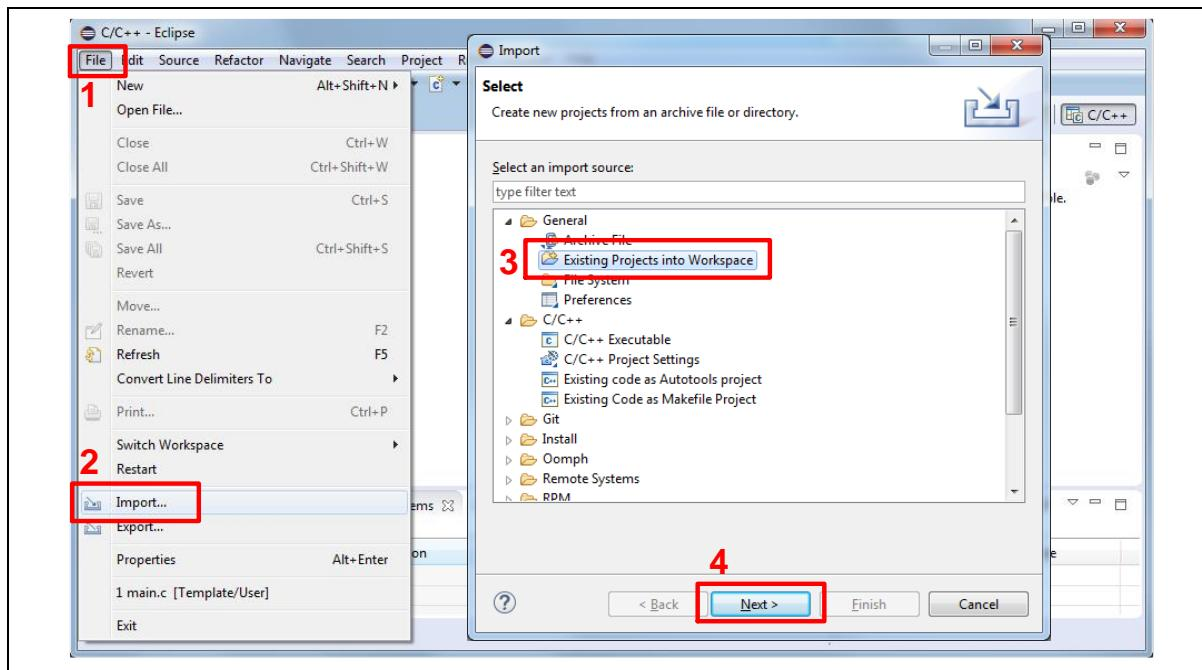
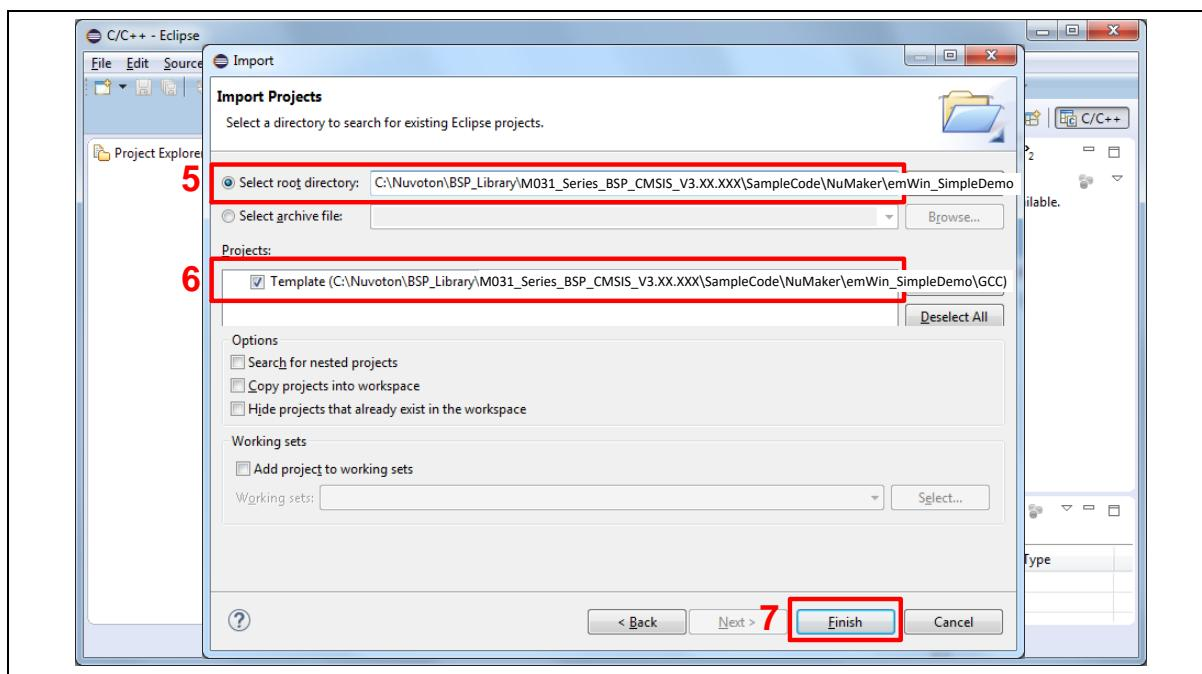

Figure 4-19 Import the Project in NuEclipse
Figure 4-20 Import Projects Windows
2. Import the “emWin_SimpleDemo” project by following the steps presented in Figure 4-19 and Figure 4-20.